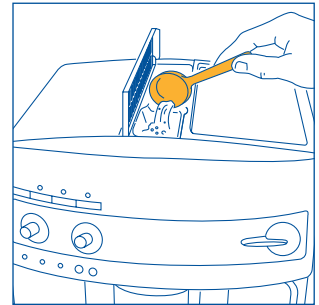

Fig. 19
2. Lift the lid in the center, place one measuring scoop of ground coffee in the funnel (see fig. 19) and proceed as described in section 5.